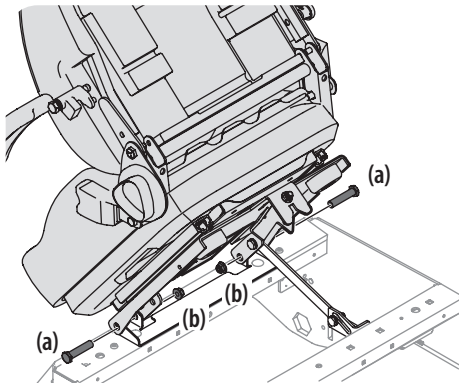

Figure 2-7
1. Remove the two flange lock nuts (b) and shoulder bolts (a) from the manual bag. See Figure 2-7.
2. Place the seat into position and secure the seat into place with the hardware as shown in Figure 2-7.